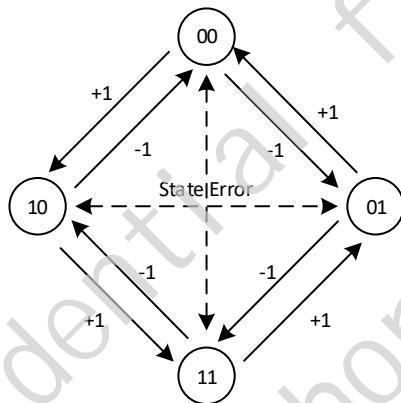

Fig 21-4 Quadrature decoder phase state
This hardware IP is designed to decode the quadrature signals from I/O pin. The Q-Decoder hardware can generate the position counter(PC) and the direction by the state changes of the signal PHA and PHB. So the software can get the position by reading related registers. Fig 21-4 shows how a Q-decoder counts the position and detects the direction by PHA and PHB .